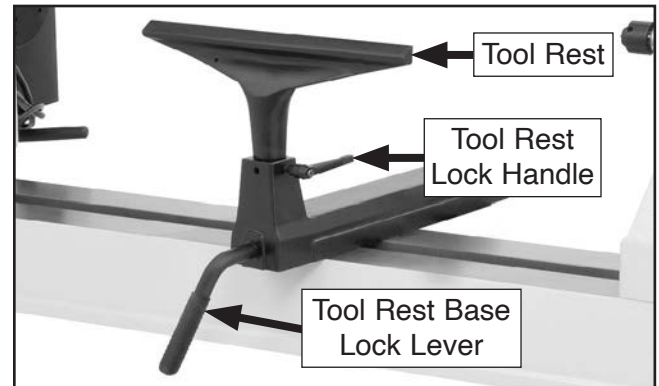

Figure 9. Tool rest controls.
1. Loosen tool rest base lock lever and move tool rest assembly to desired position on lathe bed, as shown in **Figure 9**.
1. Loosen tool rest lock handle (see **Figure 9**).